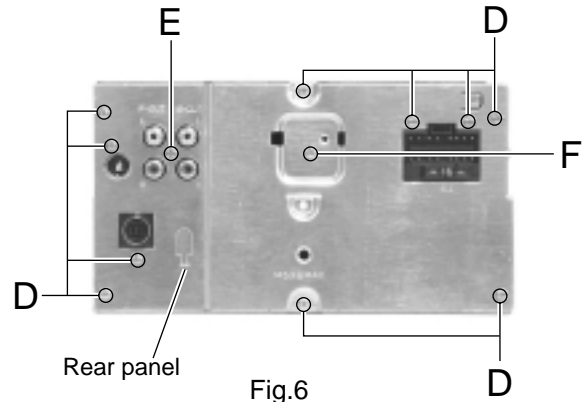

Fig.6
**■Removing the CD player section / cassette player section (See Fig.6 ~ 10)**